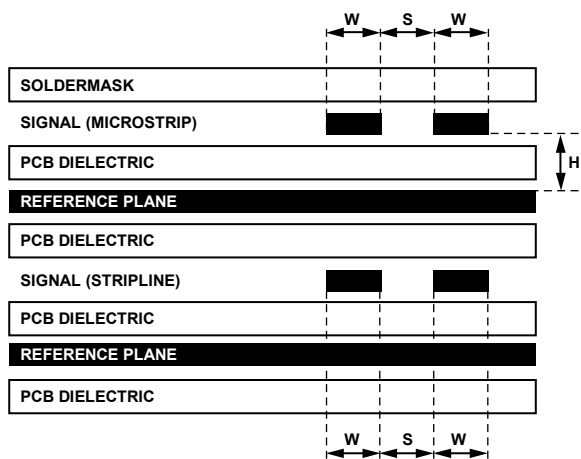

Figure 45. Example of a PCB Cross-Section
The high speed differential inputs and outputs should be routed with $100\ \Omega$ controlled impedance, differential transmission lines. The transmission lines, either microstrip or stripline, should be referenced to a solid low impedance reference plane. An example of a PCB cross-section is shown in Figure 45. The trace width (W), differential spacing (S), height above reference plane (H), and dielectric constant of the PCB material determine the characteristic impedance. Adjacent channels should be kept apart by a distance greater than $3W$ to minimize crosstalk.